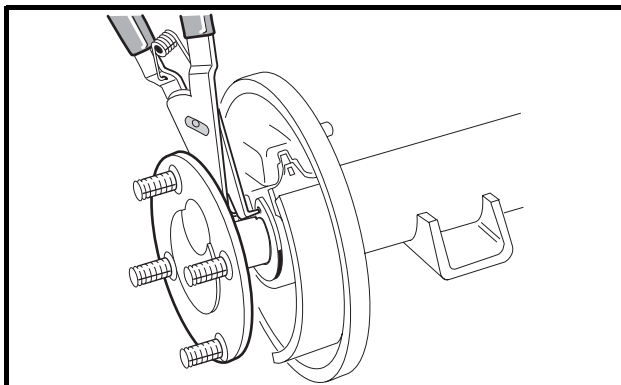

Figure 28-1 Axle Tube
4. Use 90° internal snap ring pliers to remove the internal retaining ring (6) from the axle tube. **(Figure 28-1, Page 28-2). See also Figure 28-1, Page 28-2.**